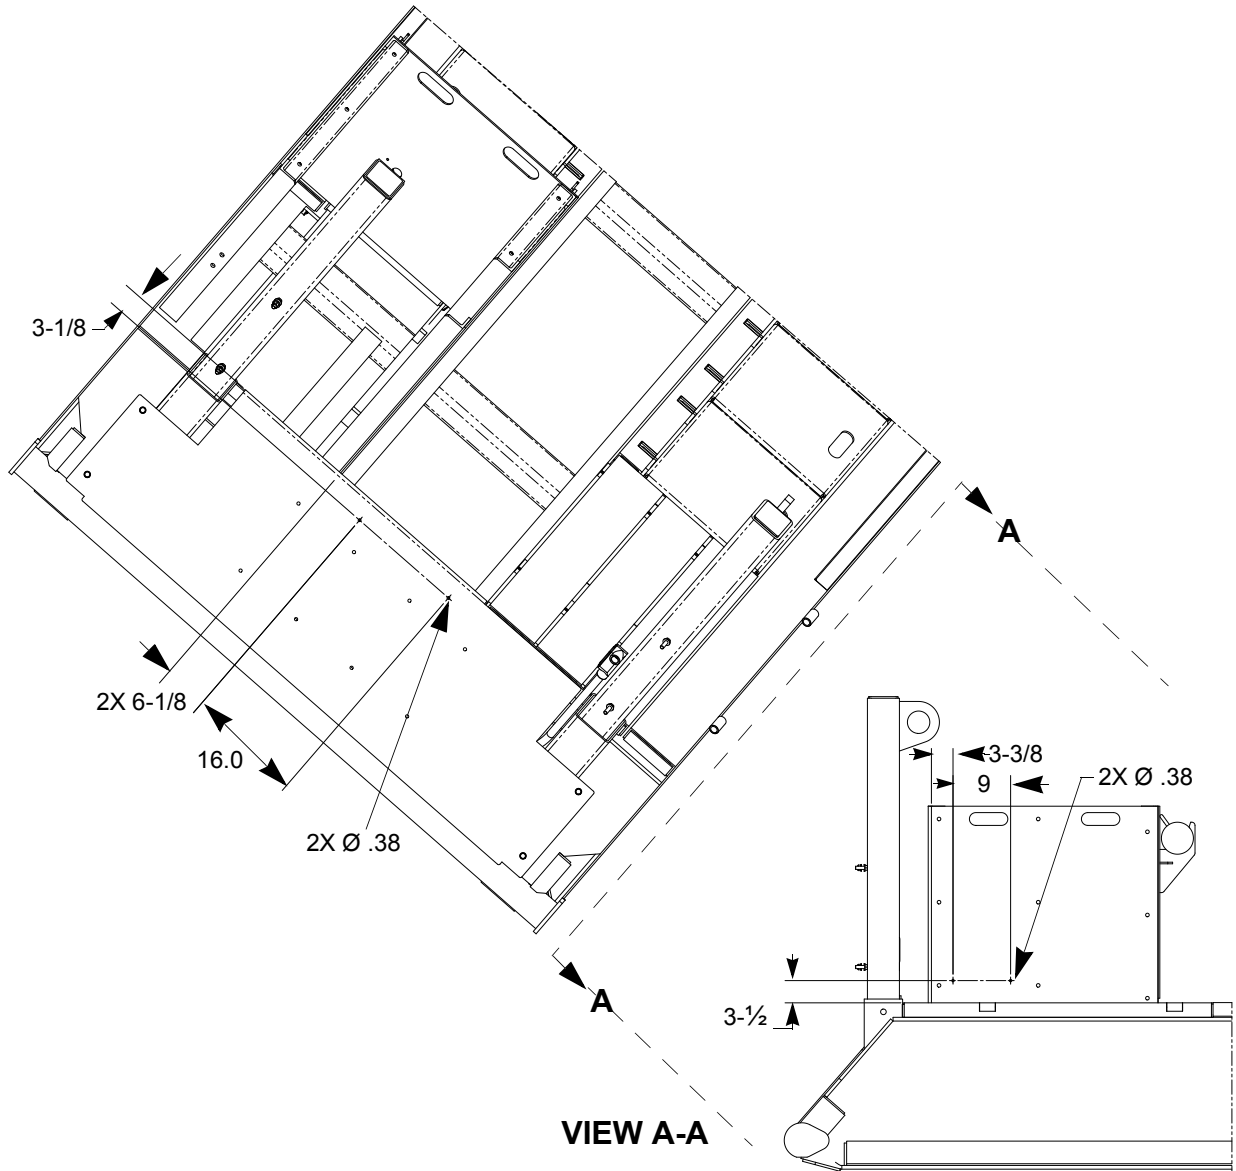

Figure 1: Angle View (Reference Drawings AY51075, AY51076)
2. Drill two 3/8" thru-holes in the HPU tank side guard as dimensioned (Figure 1).